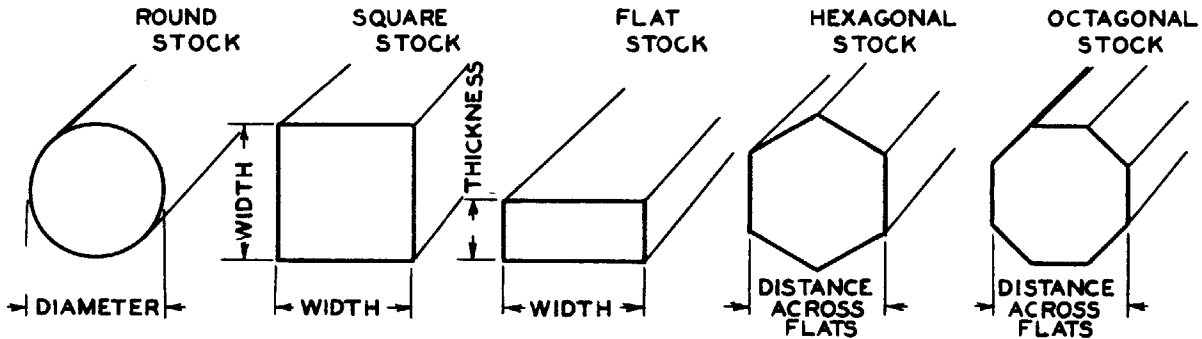
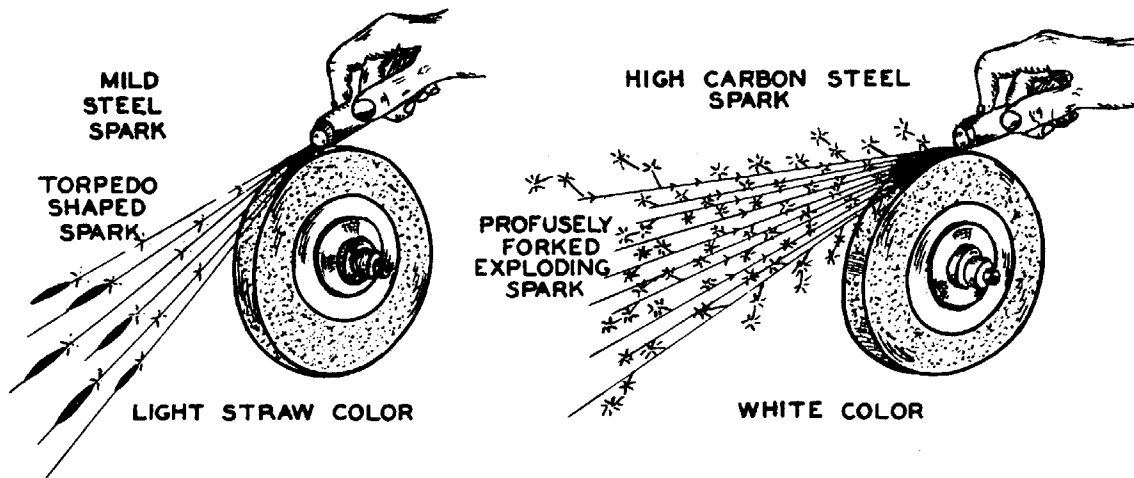

FIG. 1 DIMENSIONS USED IN MEASURING BAR STOCK
FIG. 2 SPARK TESTING STEEL BY NOTING COLOR AND SHAPE OF SPARK
3. Select the size and shape of stock which corresponds to the specifications on the job sheet by measuring it across an end section with the steel rule. The sizes of the various shapes of bar stock are measured as indicated by the dimensions shown in Figure 1.
To spark test a piece of material, touch it lightly against the face of a revolving grinding wheel and note the color and shape of the resulting spark as indicated in Figure 2.
The two types of frames commonly used are the Pistol Grip (Fig. 1) and the Straight Handle (Fig. 2). Either type may be purchased with an adjustable frame to accommodate 8, 10, and 12 inch blades; or with the solid steel frame to hold a blade of definite length for the job at hand.